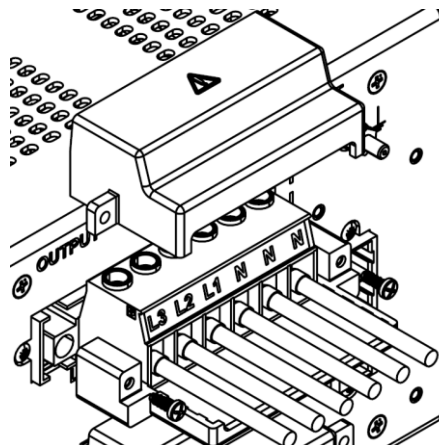
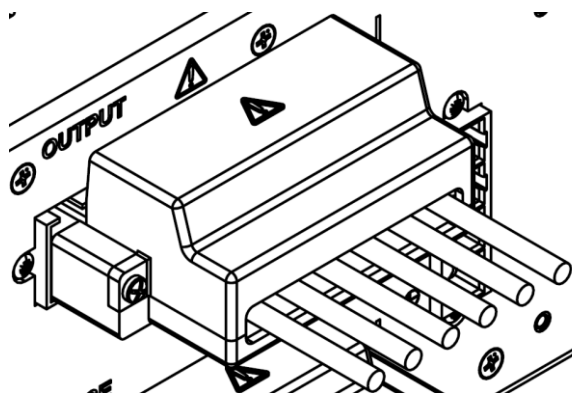

Figure 7-21: Fixing the Output Cover
Figure 7-22: Final Assembly
7. Fix the output covers using 2 screws provided with the power source; refer to **Figure 7-21**. Use a tightening torque of 5.2lbf-inch (0.58Nm). Refer to **Figure 7-22** for the final assembly.